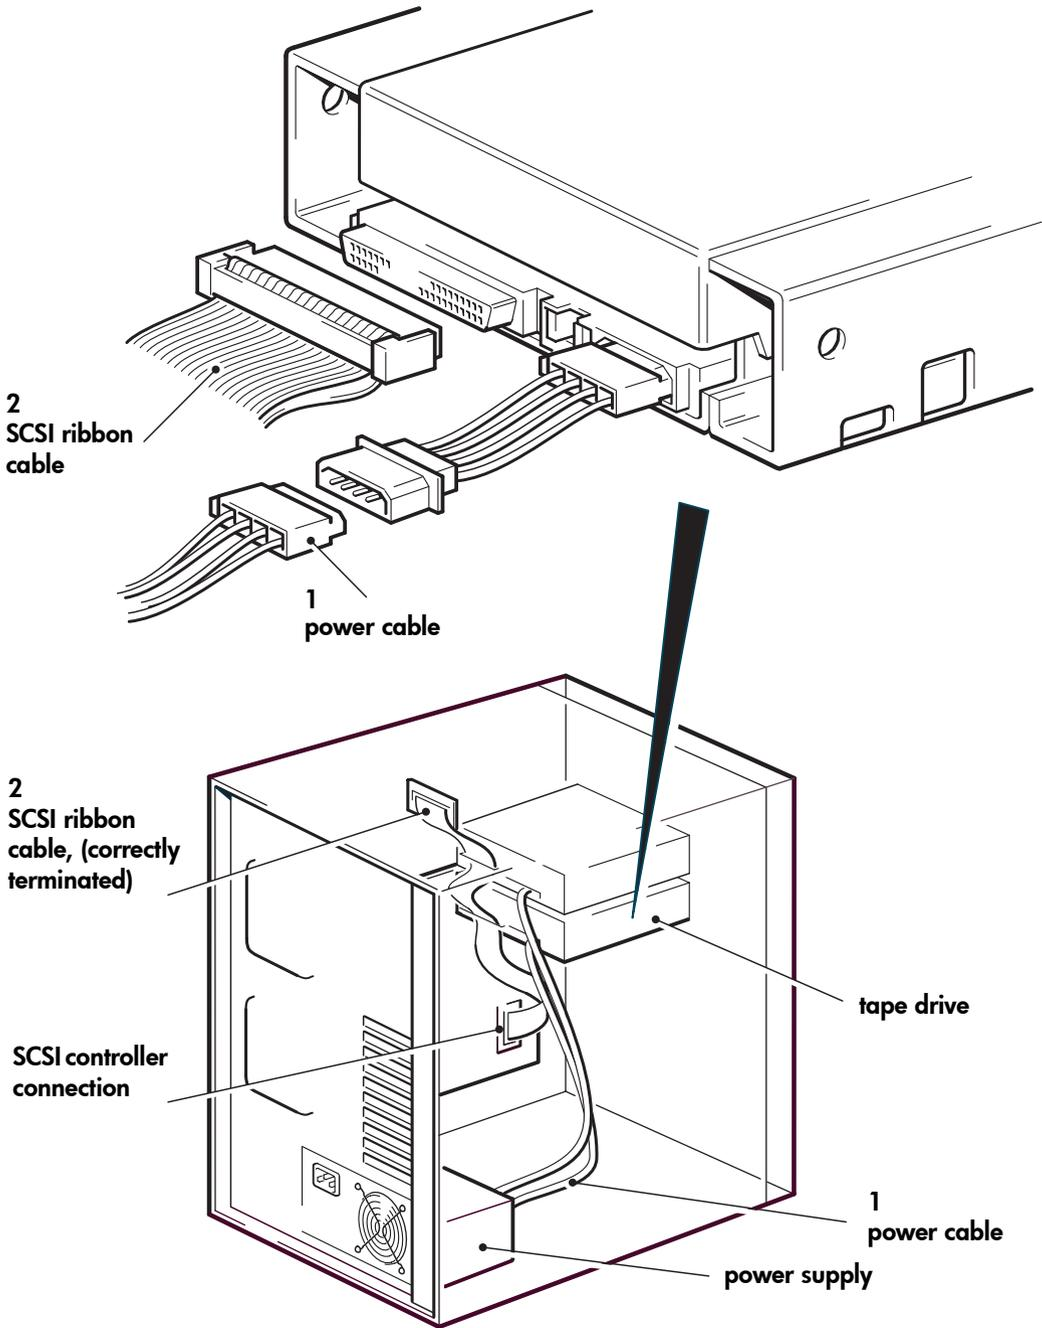

Figure 8: attaching power and SCSI cables
- 1 Attach a spare power cable from the server's internal power supply to the power connector, as shown in figure 8, item 1.
- 2 Attach a spare connector on the server's built-in SCSI bus or HBA's SCSI ribbon cable to the SCSI connector of the drive, as shown in figure 8, item 2.
Therefore, assuming the HBA is the first device on the bus, you should check that the second terminator is placed after the last device, as shown in figure 8, item 2.